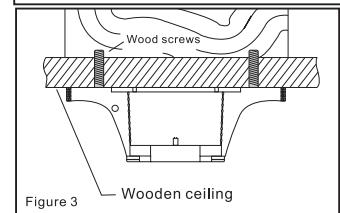

Figure 3
2. Wooden ceiling: Fix the mounting bracket to the wooden ceiling by 4 pieces wooden screws. The thickness of wooden ceiling must be at least 7cm. (Fig 3)